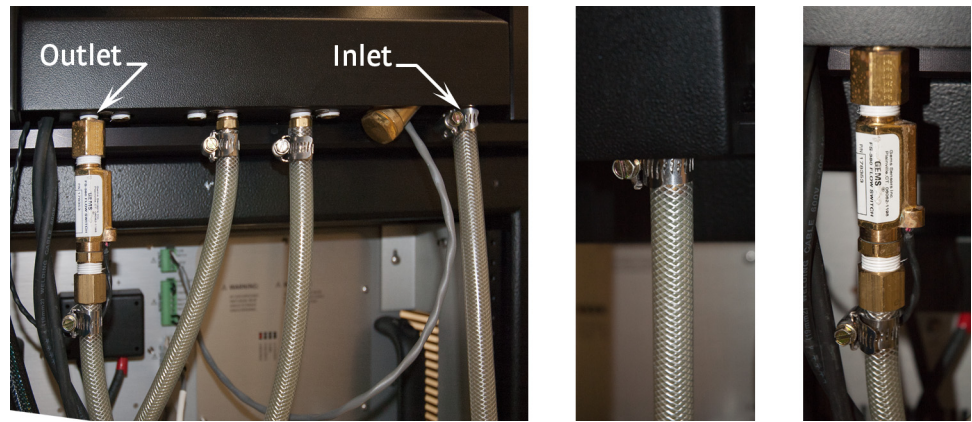

FIGURE 3-11 Left: Outlet and inlet connections on the internal water manifold;
3. Locate the 10 mm (3/8 in) outlet barb connections on the internal water manifold (FIGURE 3-11) and connect them to your preferred water return with the appropriate 10 mm (3/8 in) ID flexible water lines and associated hose clamps.